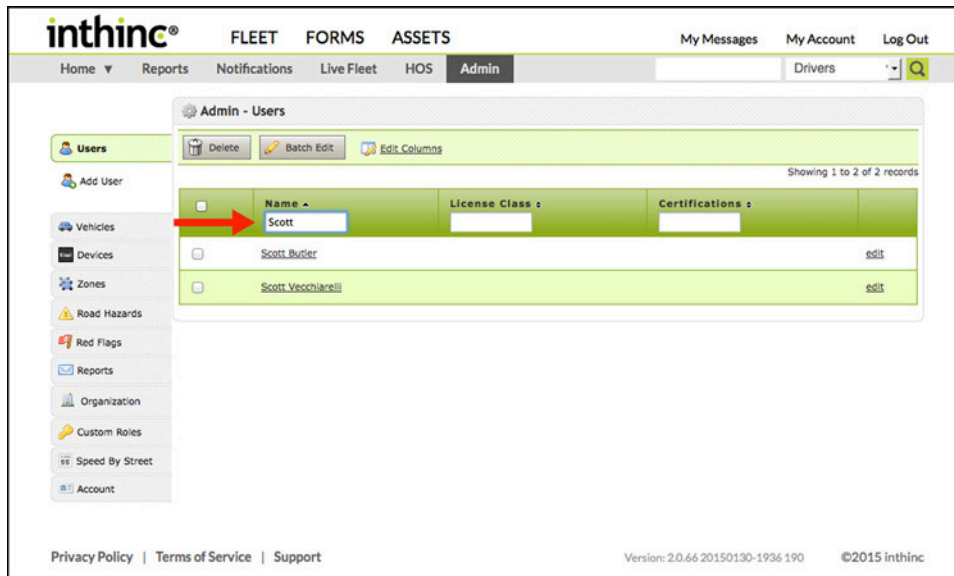

Figure 17 Admin > Users List filtered by Name Column
- 3 If using the filter tool at the top of the column, type a name or number into the text entry box and press <Enter> on your keyboard to refresh the list. Any matching results will be displayed when the list refreshes. (Figure 17 on page 38)